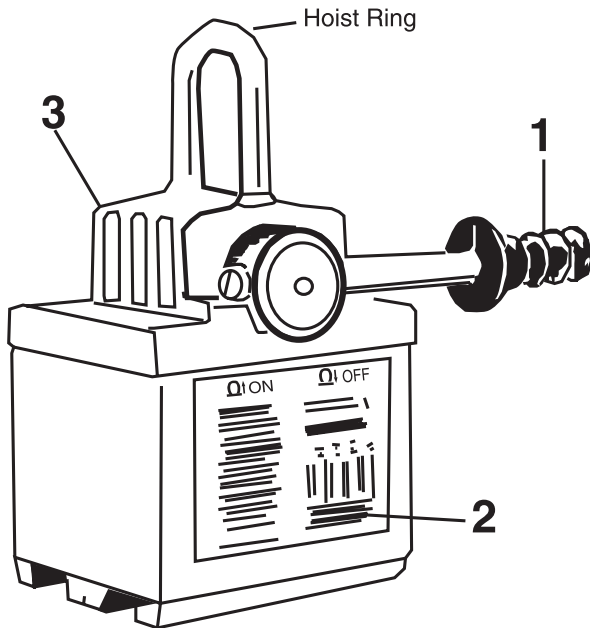

Figure 2
- Inspect the hoist ring for wear or deformation (see Fig. 2). If the hoist ring diameter is deformed and/or worn to less than .4" (10.2mm) for the CM-400/1 or .5" (12.7mm) for the CM-800/1, it should be replaced.
- Check the condition of the Operating Instruction label and Product Safety signs. Your magnet was supplied with one (1) Specification/Operating Instruction label and one (1) Product Safety sign. If these are missing or damaged, they should be replaced.